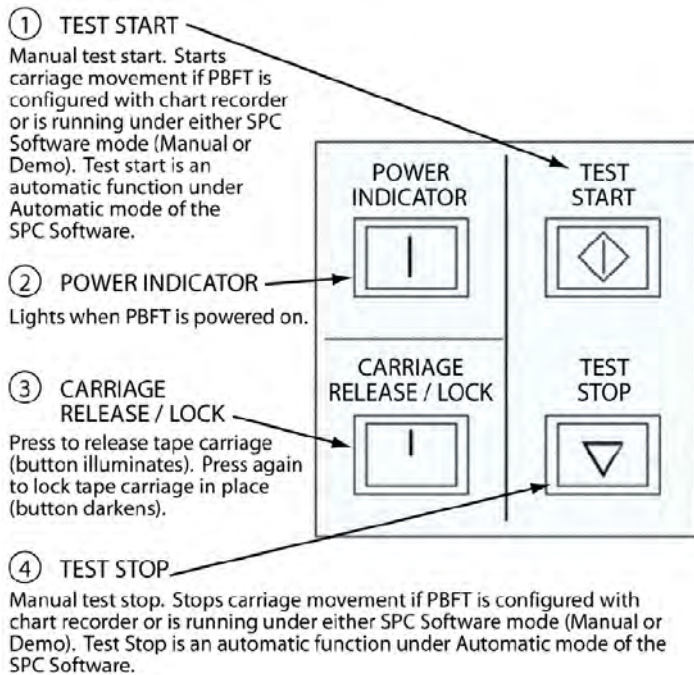

Figure 2 PBFT VS Control Buttons
1. Turn on the PBFT power switch. The power indicator (page 2, Figure 2, Item 2) will light.
- a. Press CARRIAGE RELEASE/LOCK (Figure 2, Item 3) to release the tape carriage.
- e. Press TEST START (Figure 2, Item 1). The following should occur:
- a. Turn on the PBFT power switch. The power indicator (page 2, Figure 2, Item 2) will light.